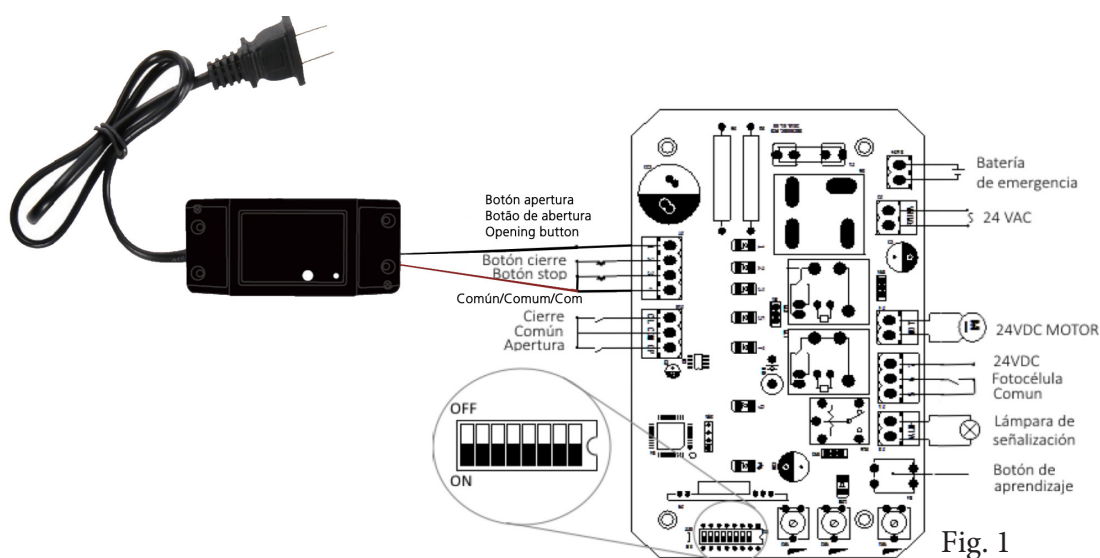

Fig. 1
1. Connect the red and black cables to the START input of the control panel (Fig. 1).